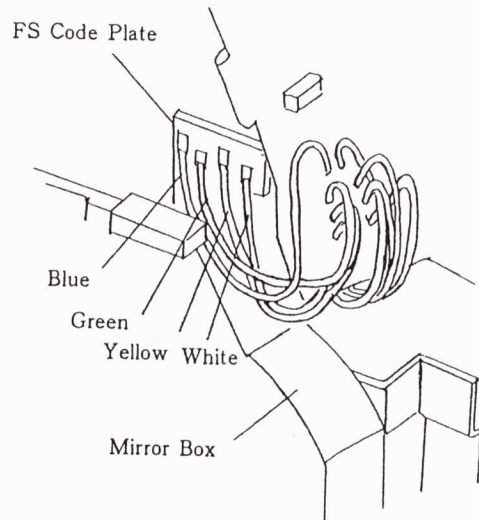

Fig. 91
- ① Do not install the lead wires on top of the Variable Resistor.
- ② From the red and blue lead wires from the F Magnet on top side of the Flexible Board Post.
- ③ Do not from the Brown, Pink and Purple lead wires from the Shutter on any of the four soldering points of the DC-DC coil leads. Otherwise, the aperture value will remain set at F16 in the program mode.
- ④ Do not from the Gray and Orange lead wires from the SPD on the screw. Otherwise, the display lamp may not sometimes light up and the shutter may not be tripped.
- ⑤ From the Blue, Green, Yellow and White lead wires from the FS Code Plate as shown in Fig. 91 so that they do not get squeezed between the Mirror Box and the Top Cover.